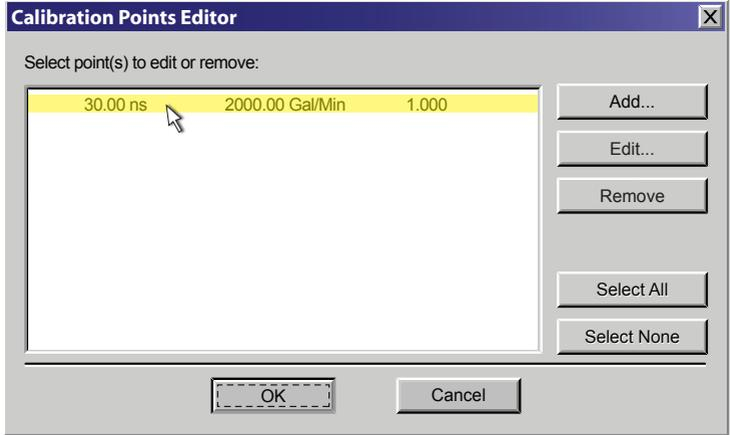

Fig. 15 Calibration Points Editor
- 5) If calibration point is displayed in Calibration Points Editor screen, record the information, highlight and click Remove. See Fig. 15.